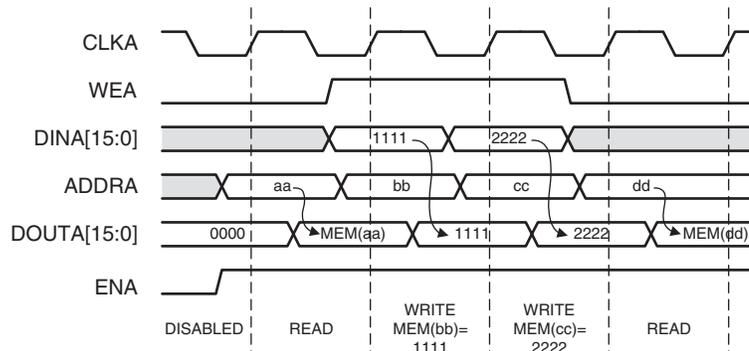

Figure 9: Write First Mode Example
- Write First Mode:** In WRITE\_FIRST mode, the input data is simultaneously written into memory and driven on the data output, as shown in Figure 9. This transparent mode offers the flexibility of using the data output bus during a write operation on the same port.